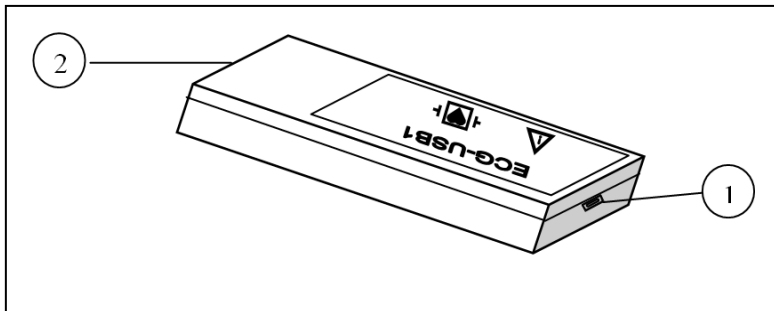
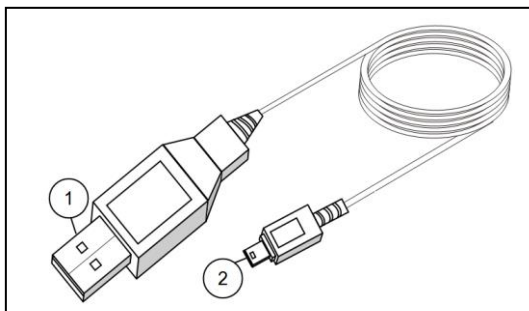
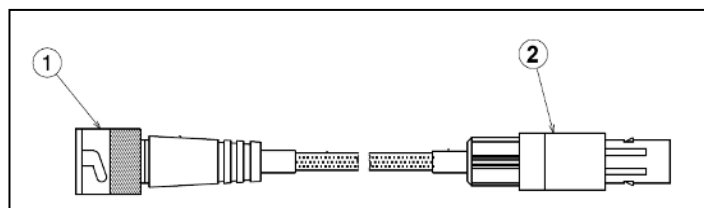
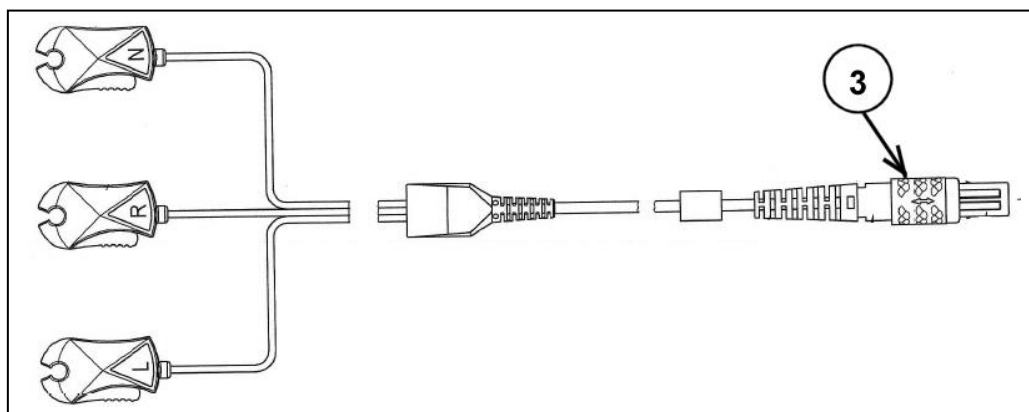

Figure 1: ECG-USB1 Device
Figure 2: USB Cable
Figure 3: BNC Cable
Figure 4: ECG Cable (relates to cable for ECGUSB1D-EX)
1. Connect the standard A-type plug of the USB cable (Figure 2, detail 1) to the USB connector of the host.
2. Connect the Mini-B type USB plug of the USB cable (Figure 2, detail 2) to the input of the ECG-USB1 acquisition device (Figure 1, detail 1).
3. Connect plug of detachable patient cable (Figure 4, detail 3) to the round connector on ECG-USB1 (Figure 1, detail 2)
4. Apply the leads to the patient (Right Arm, Left Arm and Right Leg) according to their markings (R(RA), L(LA) and N(RL) respectively).
Connect plug of BNC cable (Figure 3, detail 2) to the input of the ECG-USB1 acquisition device (Figure 1, detail 1). Connect BNC connector to the auxiliary output.